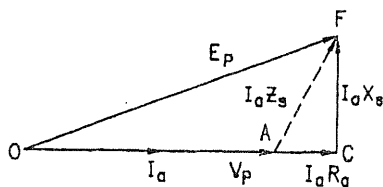
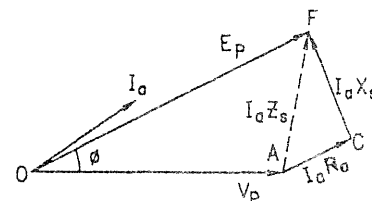

FIG. 4.57 : VECTOR DIAGRAM AT UNITY POWER FACTOR
FIG. 4.58 : VECTOR DIAGRAM AT LEADING POWER FACTOR
- In Fig. 4.57 the vector diagram for lagging power factor and in Fig. 4.58 the vector diagram at leading power factor is shown.